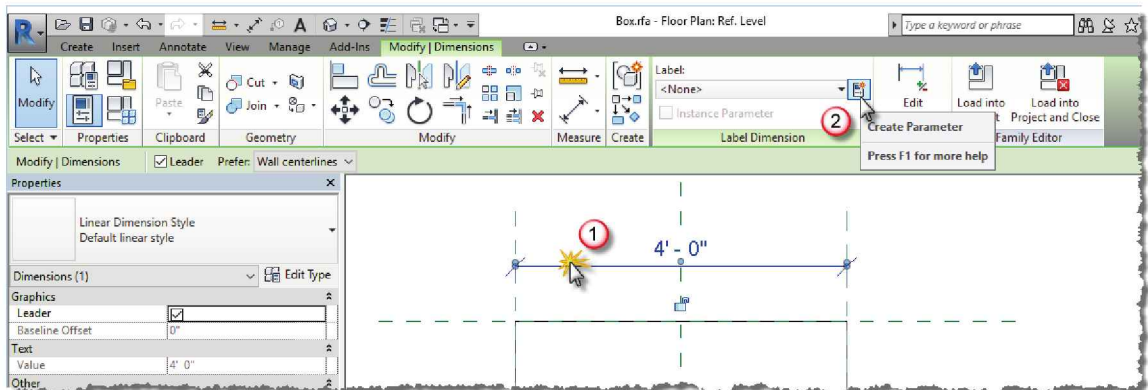

FIGURE 15-3.4 Adding a parameter to a previously drawn dimension
5. Select the horizontal dimension (see Figure 15-3.4).
6. Click the **Create Parameter** icon on the *Ribbon* (see Figure 15-3.4).